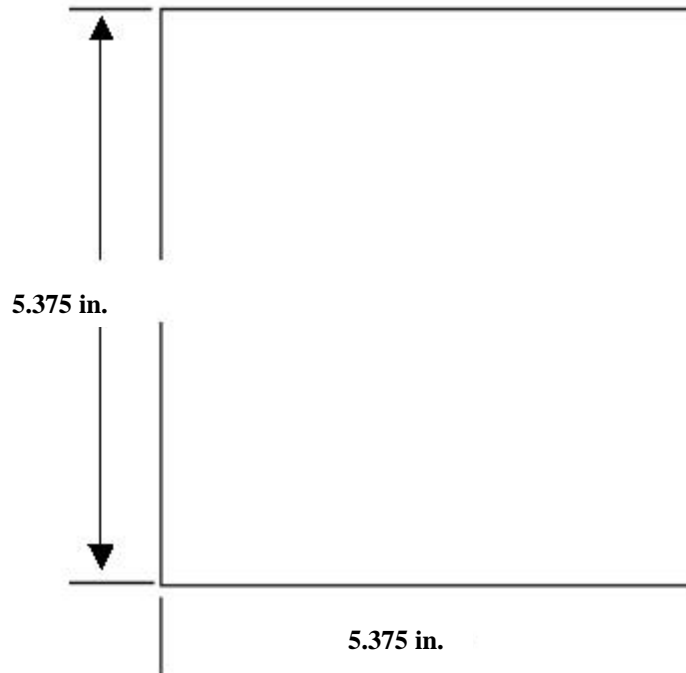

Figure 2.1
Figure 2.1 shows an installation view and physical dimensions for a panel mounted instrument. The panel where the instrument will be mounted must provide rigid support for the approximately 20 pound instrument. Adjacent instruments may be mounted within a minimum of 2 inches horizontally and 3 inches vertically, providing that proper panel support is supplied.
- 1) Cut panel opening to the dimensions illustrated in Figure 2.1.